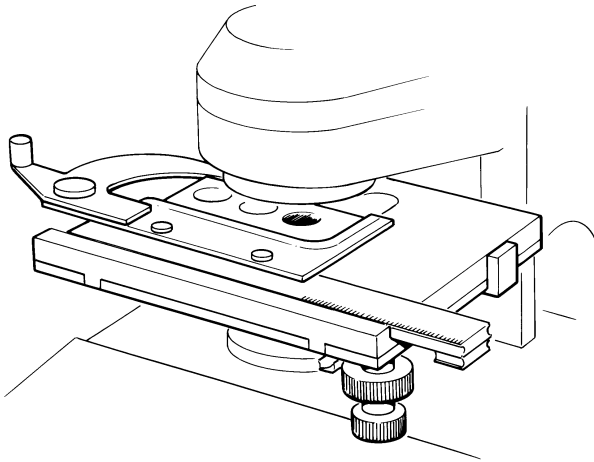

Figure 11 Reference Mirror on the Sample Stage
2. Place the 3 x 1 sample holder on the sample stage of the microscope, reflective side up, as in Figure 11.